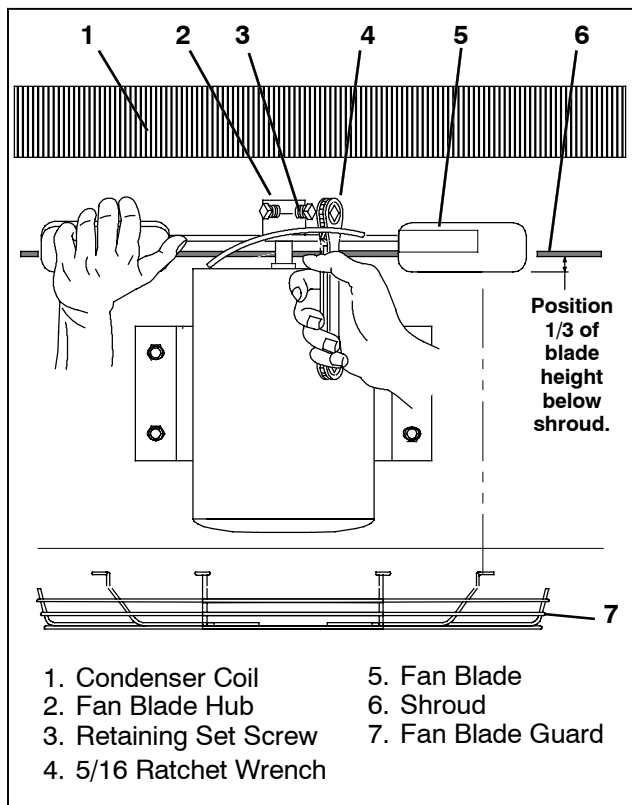

Figure 4-16. Condenser Fan Motor Removal
- Remove the four motor mounting bolts securing the motor/motor mount to the unit. (refer to Figure 4-16)
- Tighten the four motor mounting bolts. (refer to Figure 4-16)